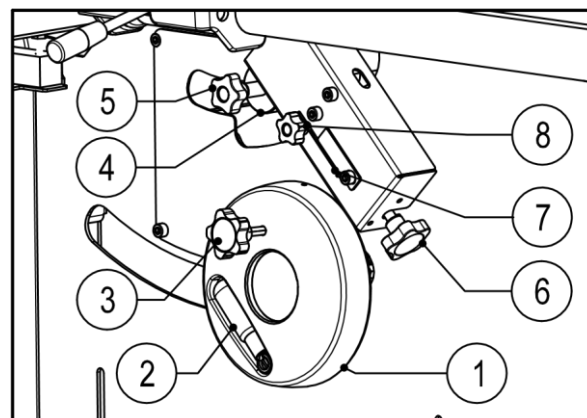

Fig.12B
The desired cutting angle can be set with the handwheel (1) and the handle (2)(Fig 12B). The angle setting can be read on the clock (4) in the handwheel. The angle of the scorer blade is automatically adjusted according to the angle setting of the main saw blade. The sawing unit can be adjusted to angles between 45 ° and 90°. Mechanical stops have been adjusted from the factory to the end points.